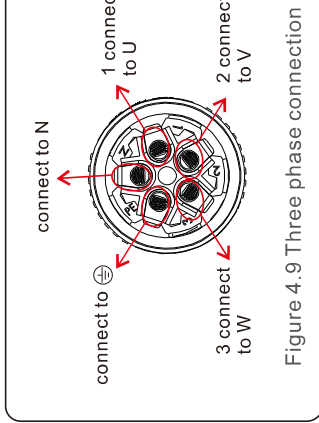

Figure 4.9 Three phase connection
- For three phase inverter installation connect U, V, W to pin1, 2,3 and connect N to pin4, connect PE to ⊕ (see figure 4.9).